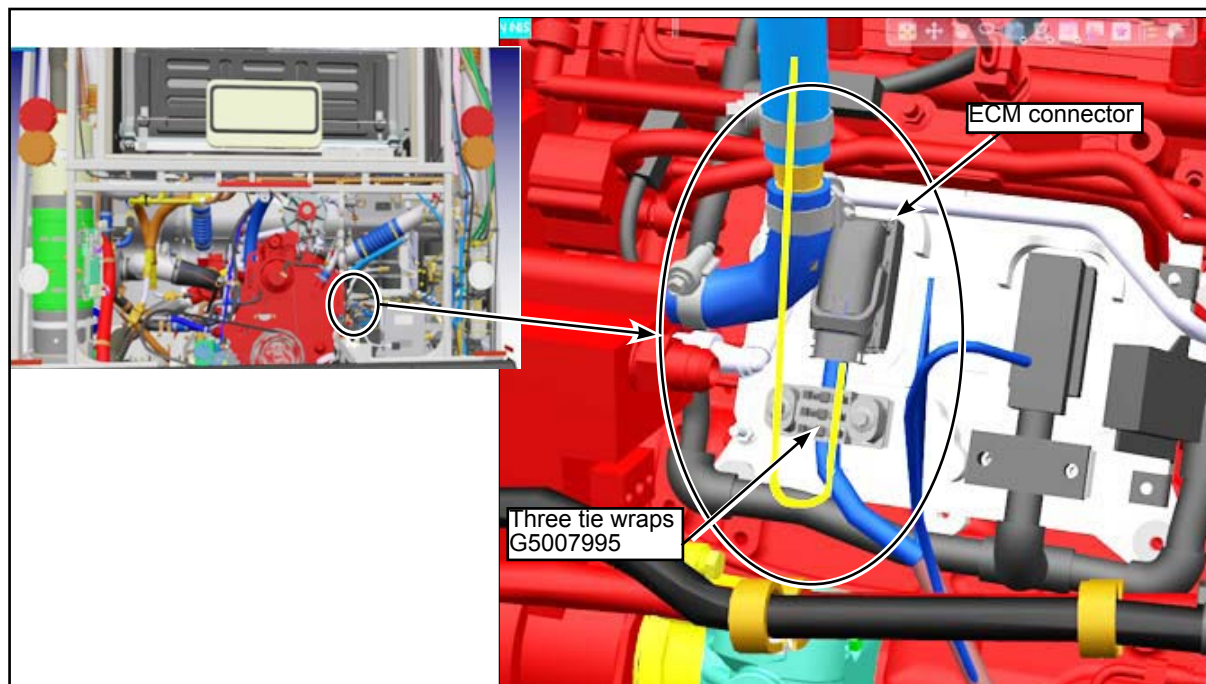

Figure 6 - Reconnect, Secure and Tie-wrap the Wire Kit
- 1.7. Reconnect the connector, secure the strain relief and zip-tie the wire kit with three tie-wraps (G5007995), route the wire kit from connector +MT-X95W as shown below (see Figure 6).